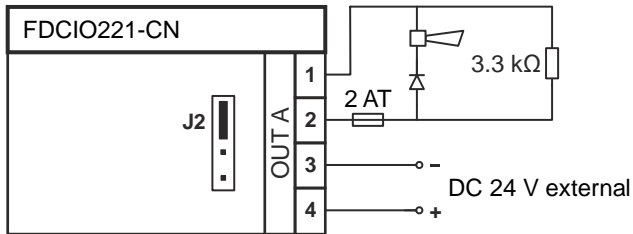
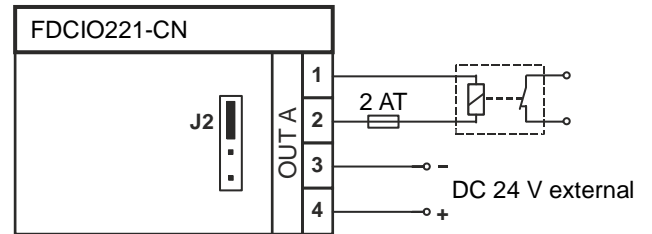
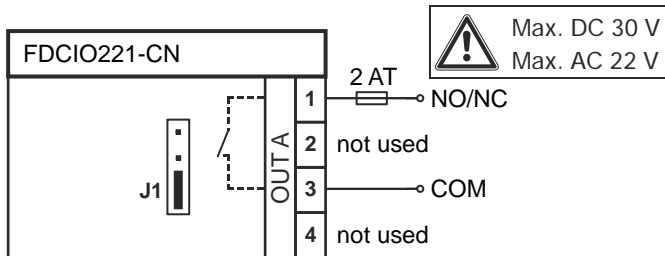

Fig. 9
Fig. 10
Fig. 11
- 'Normal operation' output: Fig. 9
- 'Inverted operation' output: Fig. 10
- Output not monitored: Fig. 11
- External VD 24 V supply: Fig. 9/Fig. 10
4. Connect the jumper to J1/J2 depending on how the output is being used and connect the additional components as shown in Fig. 9, Fig. 10 or Fig. 11. Be sure to connect the resistor (Fig. 9) at the end of the line.
- Ausgang nicht überwacht: Fig. 11